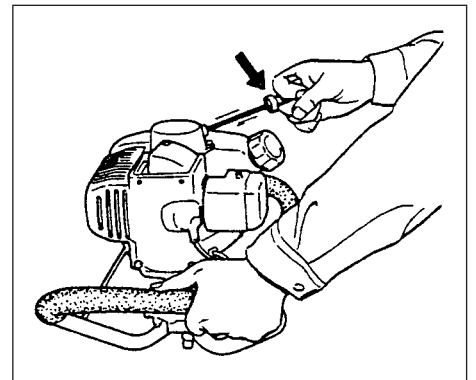

Fig. 2-4
4. Pull recoil starter briskly, taking care to keep the handle in your grasp and not allowing it to snap back. (Fig. 2-4)